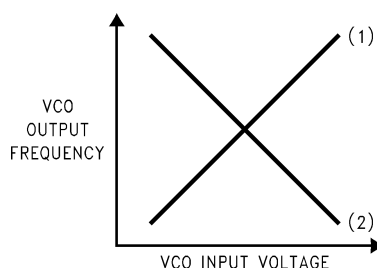

Figure 21. VCO Characteristics
- PHASE DETECTOR POLARITY, Depending upon VCO characteristics, R16 bit should be set accordingly: (see Figure 21) When VCO characteristics are positive like (1), R16 should be set HIGH; When VCO characteristics are negative like (2), R16 should be set LOW.